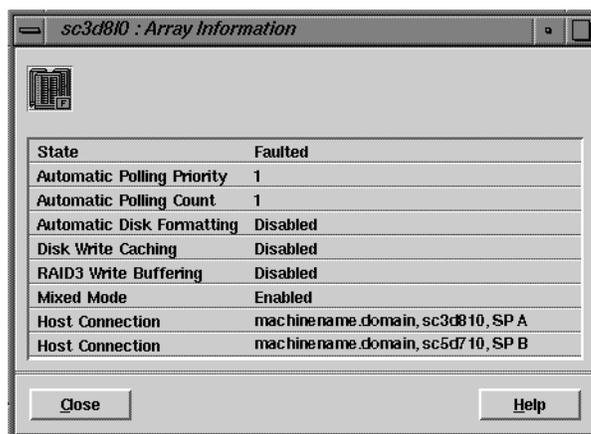

Figure 2-20 Array Information Window
- Determine whether the array's RAID 3 write buffering is enabled: click the array information window button near the right end of the array toolbar in the Array Configuration window, or choose Array Information from the Array menu. A window opens; Figure 2-20 shows an example.